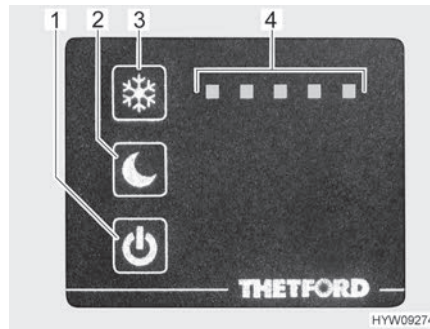

Fig. 67 Operating controls (refrigerator)
**Switching on:** ■ Press on/off button (Fig. 67,1) and hold for approximately 2 seconds. The blue indicator lamp shows that the refrigerator is working. The display (Fig. 67,4) shows the set cooling level. This display is dimmed after approximately 10 seconds.
**Switching off:** ■ Press on/off button (Fig. 67,1) and hold for approximately 2 seconds. The blue indicator lamp will go out slowly.
**Setting the cooling level:** ■ Press the temperature setting button (Fig. 67,3) and hold for approximately 1 second. The currently set cooling level (Fig. 67,4) is displayed.
■ Press the temperature setting button (Fig. 67,3) as often as necessary until the desired cooling level is reached.
**Switching on the night mode:** ■ Press the night mode button (Fig. 67,2). The blue indicator lamp shows that the night mode is active.
**Switching off the night mode:** ■ Press the night mode button (Fig. 67,2). The blue indicator lamp will go out. The refrigerator is working in normal mode again.